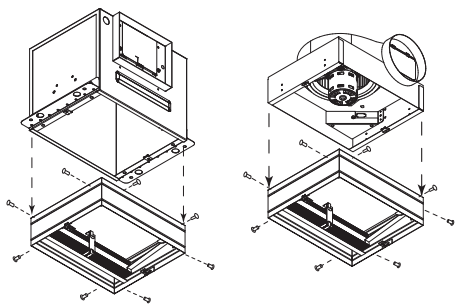

Figure 2 — Mount to Fan
1. Mount ceiling radiation damper to fan. Make sure grille attachment tabs are facing down and place the inlet part of the fan into the ceiling radiation damper collar. Fasten damper collar to fan housing using self-tapping sheet metal screws #10x1/2 inch (by others), use mounting holes provided. A minimum of (2) fasteners on each side is required. See Figure 2.